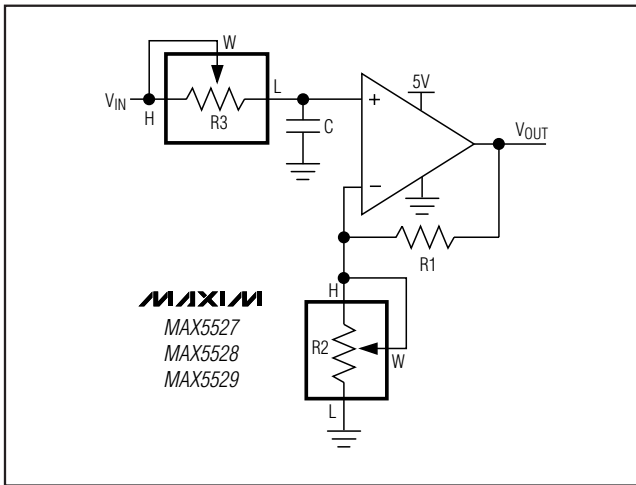

Figure 9. Programmable Filter
Figure 9 shows the configuration for a 1st-order programmable filter. The gain of the filter is adjusted by R2, and the cutoff frequency is adjusted by R3. Use the following equations to calculate the gain (G), and the -3dB cutoff frequency (fC), only up to frequencies one decade below the wiper -3dB bandwidth.